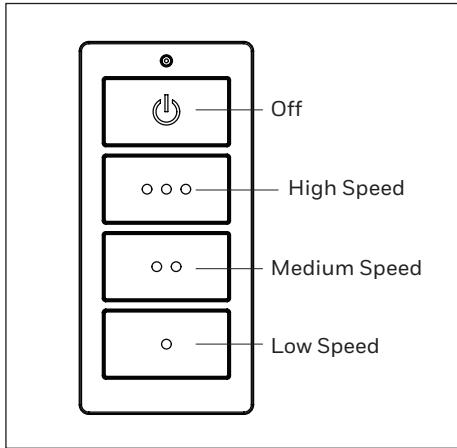
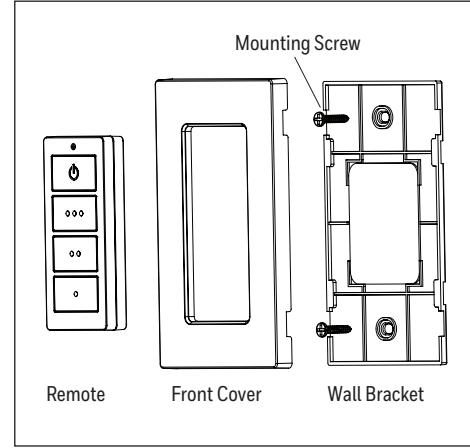

Figure 2.2
Figure 2.3
2. To operate the fan using the remote, press and release the following buttons (Figure 2.2):
- Note:** When using the remote, ensure the fan control is manually set to high (3) speed.
3. If desired, the wall bracket in remote pack can be installed to a wall using the provided mounting screws. Once the wall bracket is installed, snap the front cover onto it. The remote can be stored in the wall bracket for easy access (Figure 2.3).